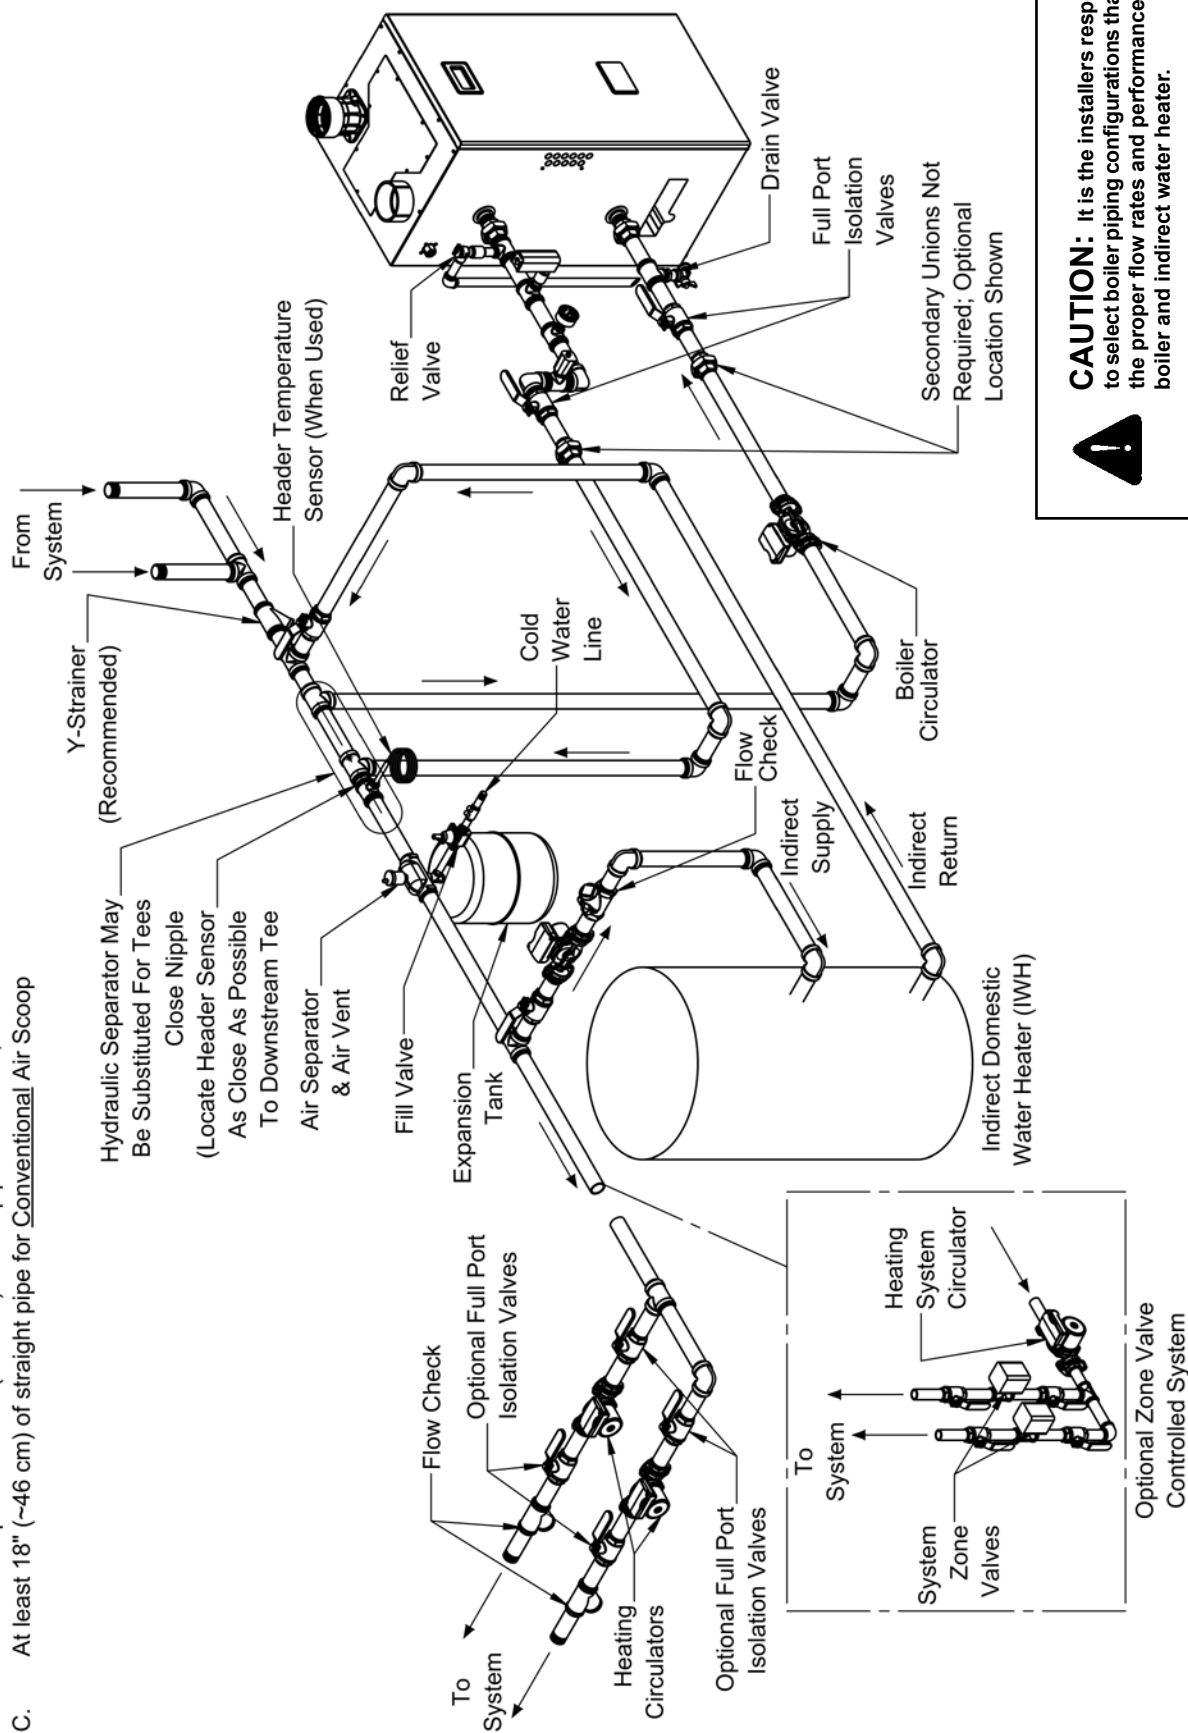

Figure 9.7b: Piping Method #1 - Near Boiler Piping - Heating Plus Supply Piped Indirect Water Heater HX Inlet Bottom Connection; HX Outlet Bottom Connection
This method can be used in heat-only applications as shown in Figure 9.7a or with an indirect water heater as shown in Figure 9.7b, 9.7c. In this system, the flow rate through the boiler (“secondary loop”) is completely independent of the flow rate through the system (“primary loop”). Use the following guidelines to ensure that the boiler will have the required flow shown in Table 9.3 regardless of the flow in the heating system.
3. Indirect Water Heater Loop Piping – If an indirect water heater is used, install it as shown in Figure 9.7b, 9.7c. Refer to the indirect water heater installation manual for the proper sizing the indirect water heater loop pump and piping.